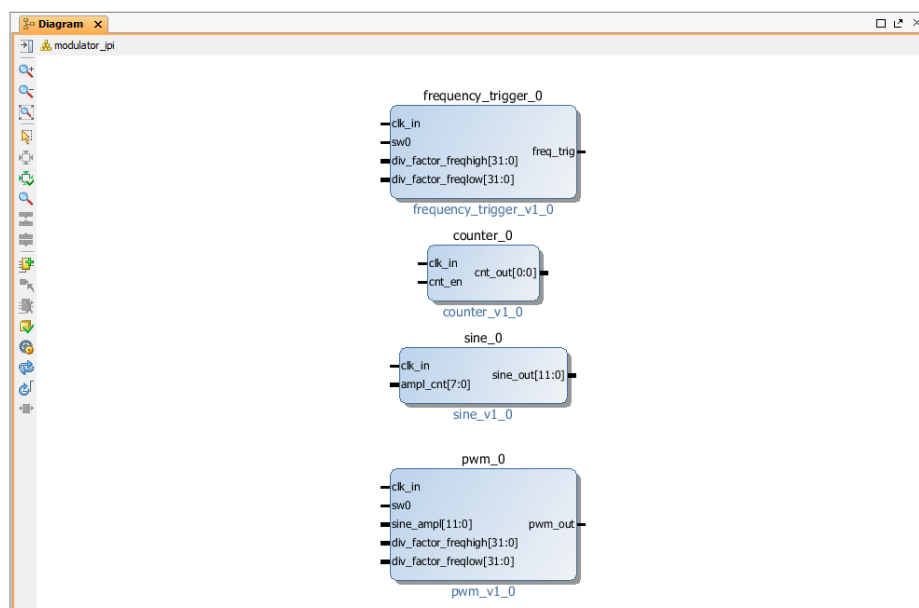

Figure 25. IP Integrator design canvas with all four instantiated IPs
- 3-1-6.** Right-click in the IP integrator canvas and select the **Add IP...** option to add the rest of the necessary IPs (**counter_v1_0**, **sine_v1_0** and **pwm_v1_0**). At this point, the IP Integrator canvas should look like as it is shown on the Figure 25.